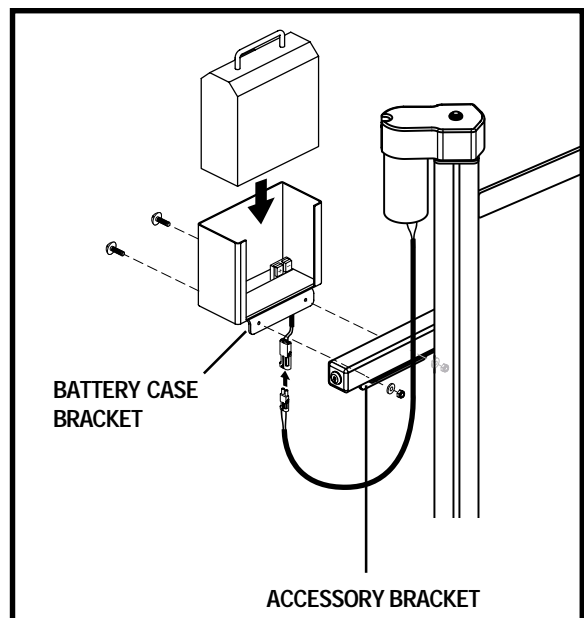

Figure 4. Onboard Battery Installation
1. Align the mounting holes in the battery case bracket with those in the accessory bracket located under the key switch tube. See figure 4.
2. Secure the battery case to the accessory bracket with the supplied hardware. See figure 4.
4. Plug the battery cord on the bottom of the battery case into the mating connector running from the motor. See figure 4.